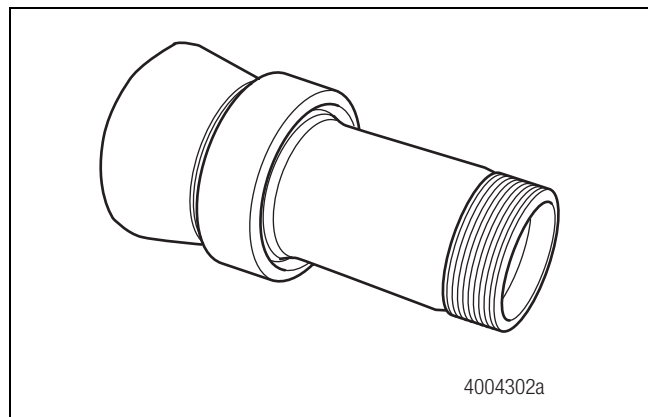

Figure 4.2
- The axle spindles are straight and shorter than conventional spindles. Figure 4.2.